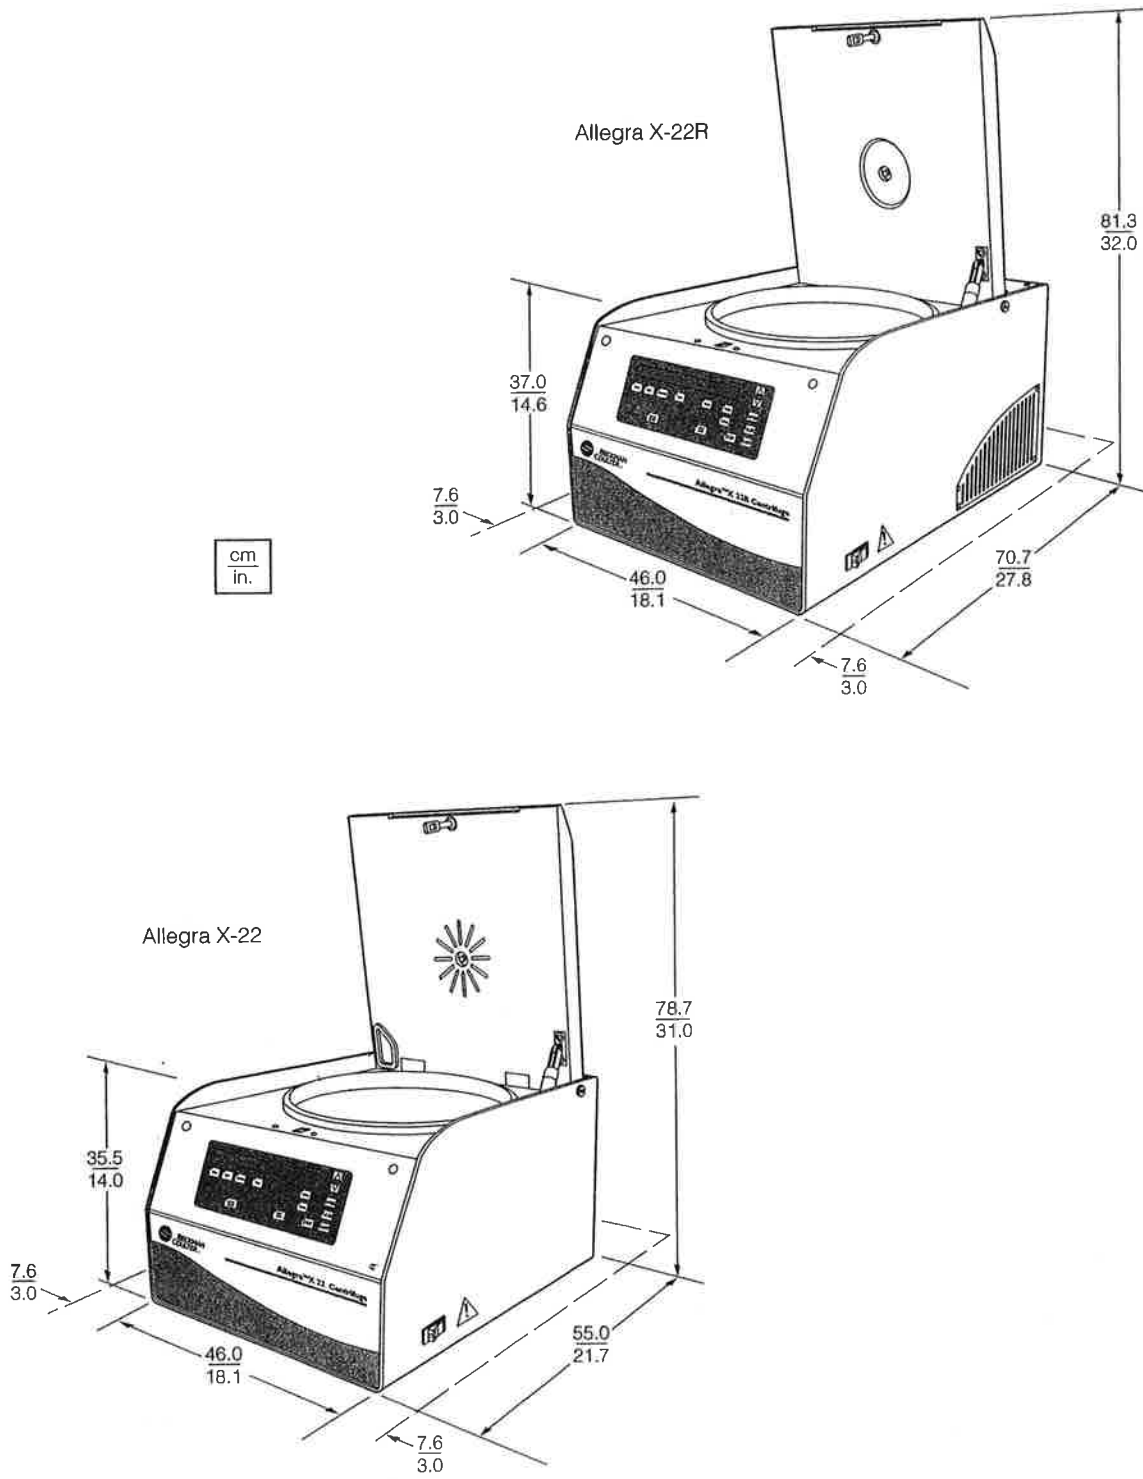

Figure 2-1. Dimensions of the Nonrefrigerated and Refrigerated Centrifuges
- Check that there are 7.6-cm (3-in.) clearances at the sides of the centrifuge to ensure sufficient air circulation. Dimensions are shown in Figure 2-1. Additional clearance is required on the right side to allow access to the power switch.